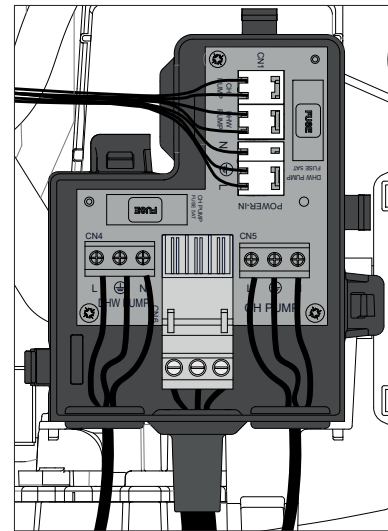

Figure 46 - 120V Connections for DHW and CH Circulators
6. Connect the cable on the connector CN5 (CH pump) and CN4 (DHW pump). See Figure 46 and Electrical Wiring Diagram, Figure 51.